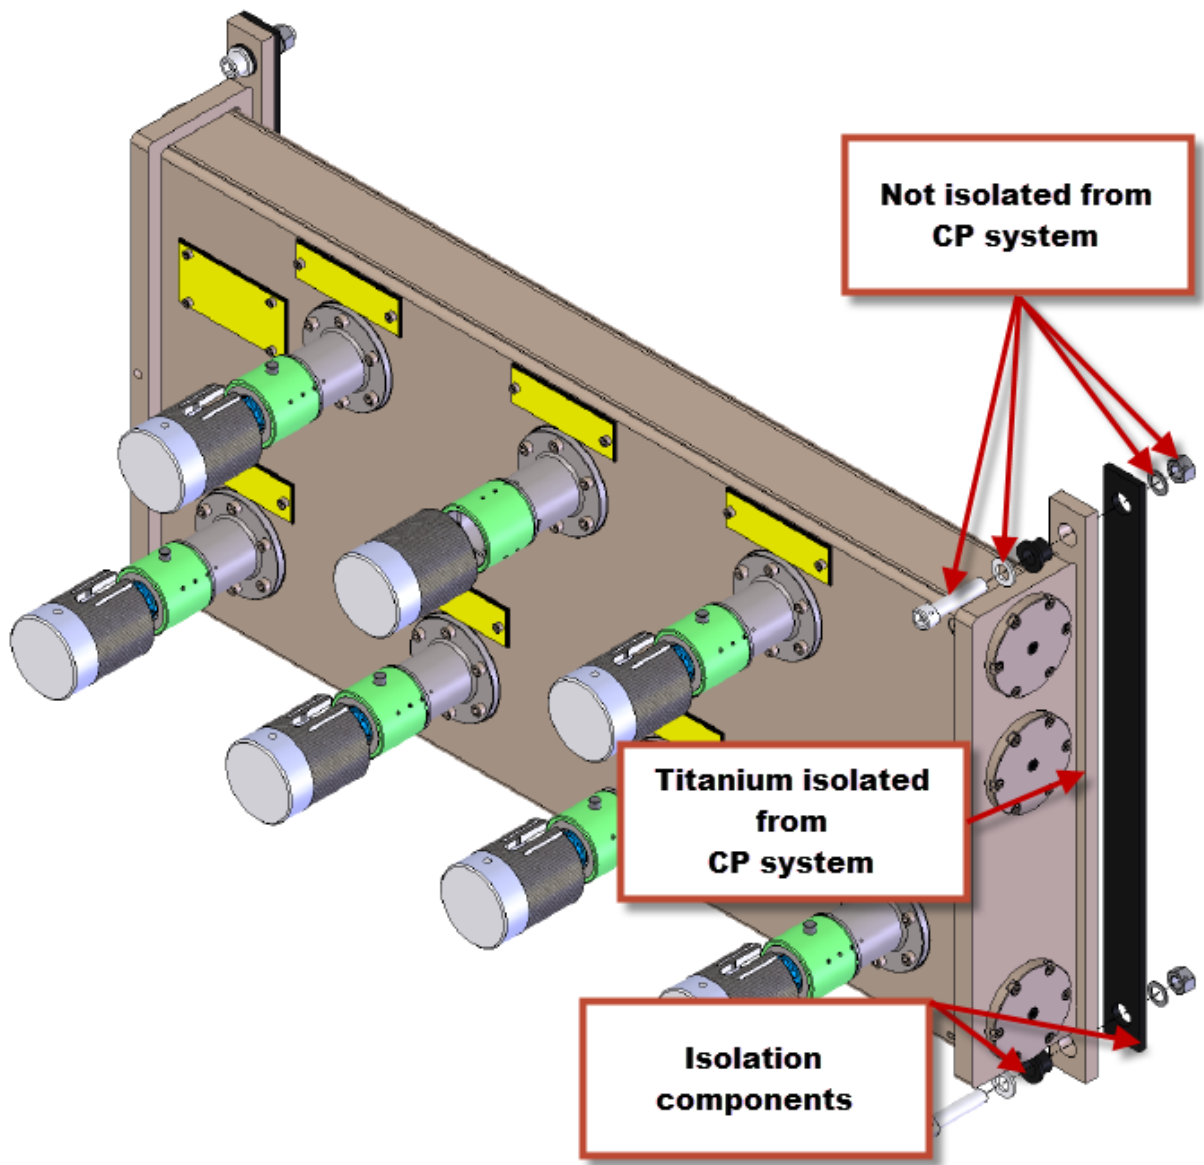

Figure 3
3.2.1.6 If MCDU housing is titanium, do not connect to CP system with a ground strap. Instead use the provided isolation components to ensure MCDU is isolated from CP system. See **Figure 3** for example of isolation components. The fasteners, however, must be connected to CP system since they are stainless. It is therefore recommended to check the fasteners for connection to CP system after assembly process is complete.